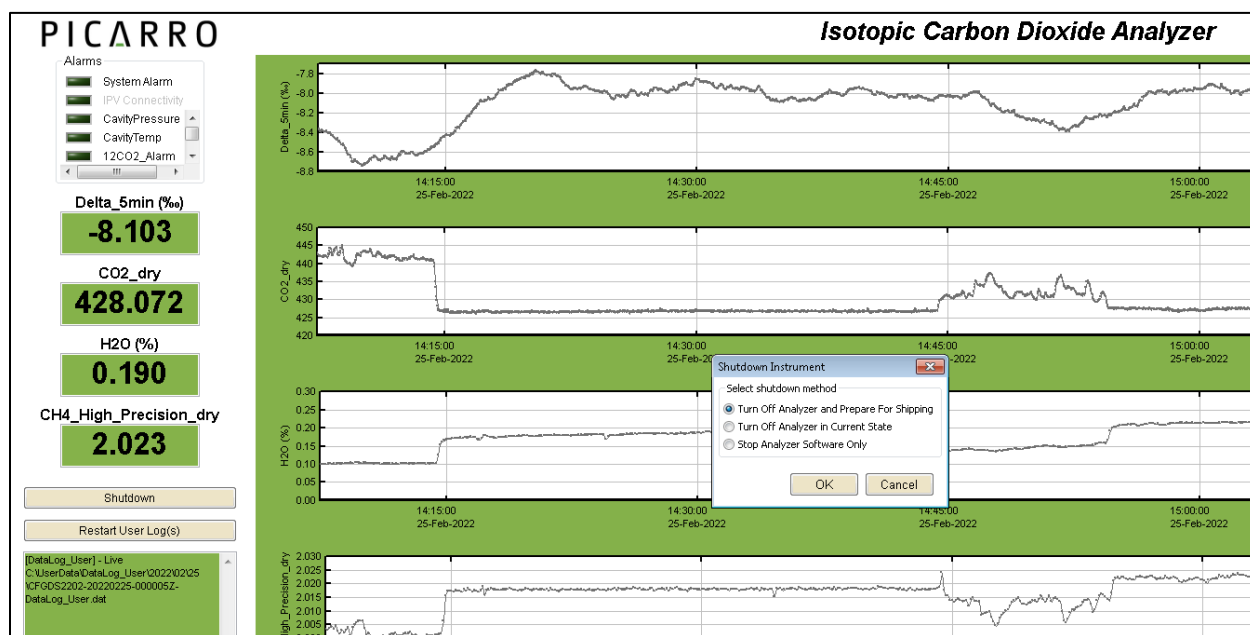

Figure 112. CRDS Data Viewer Program: Select “Turn off Analyzer and Prepare for Shipping”.
1. To remove the Analyzer Module(s), shut down CNC via the LC. Reference [AD \[12\]](#) for additional information. Connect to Picarro via Windows Remote Desktop via *Section 9 APPENDIX B: Connecting to Picarro ANALYZERS via Windows Remote Desktop*. From the CRDS Data Viewer Program, click Shutdown and select **“Turn off Analyzer and Prepare for Shipping”**, then click **OK (Figure 112)**. Once the green power light goes off on the front of the analyzer, you are OK to proceed.